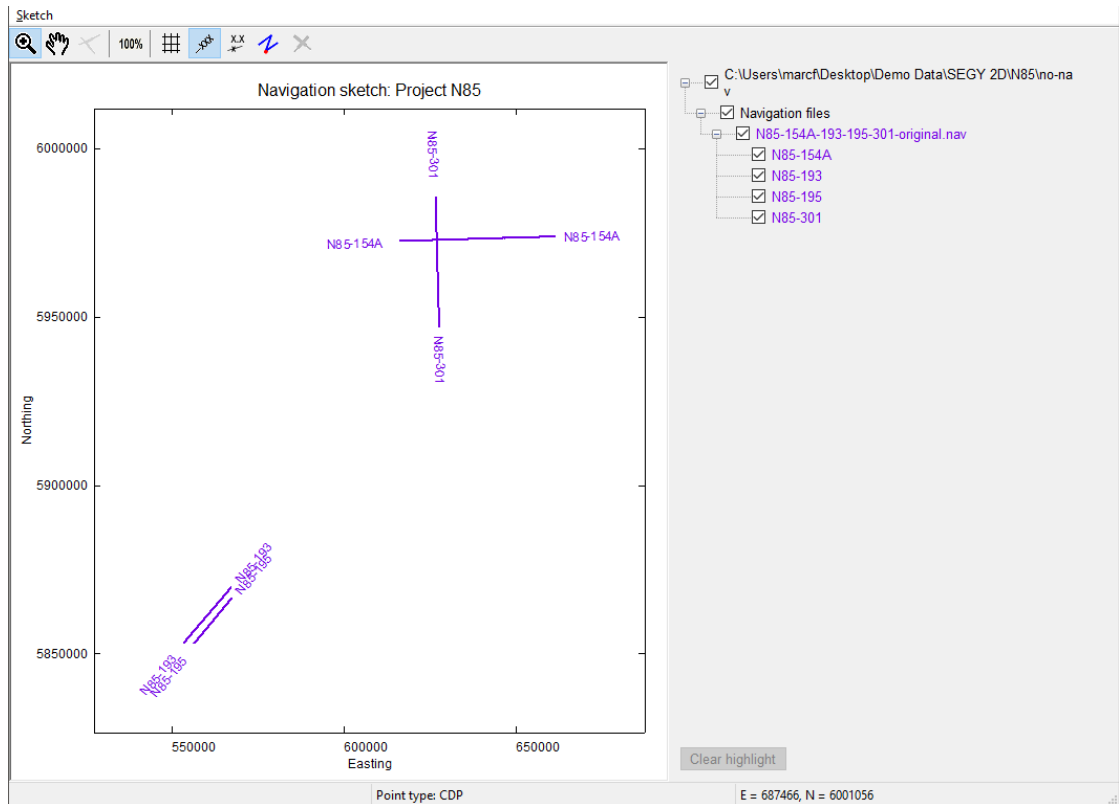

Figure 5-6 Sketch map
1. Right-click on the navigation file listed in the left-hand panel. Select **Sketch Map** from the menu options to produce a map from the data records and display in a floating window. (Figure 5-6).